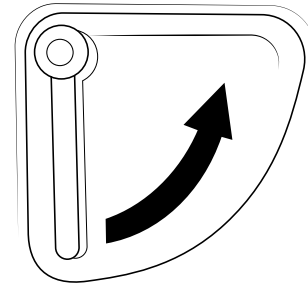

Figure 8 - Rear or side emergency door handle (outside view)
- Lift the handle upward and swing the door open (**Figure 8**).